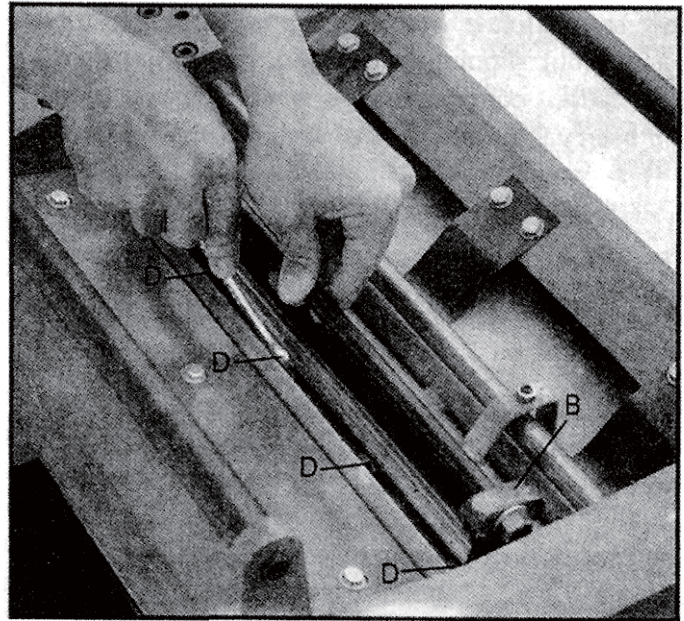

Fig. 26
E. After all three knives are set with screws just snug, back out and tighten the five screws (D) Fig. 26 and 27, against the slot starting with the end screws first then the center screws until the knife is securely held in the cutterhead. Tighten remaining two knives in the same manner.